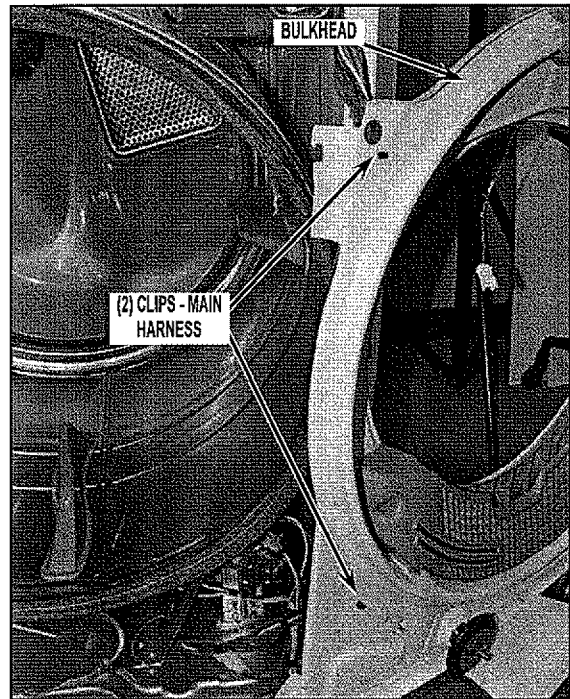

FIGURE 14
16. Swing bulkhead assembly to side and remove two (2) harness clips by pinching ends with pliers to disconnect harness from bulkhead. See Figure 14.